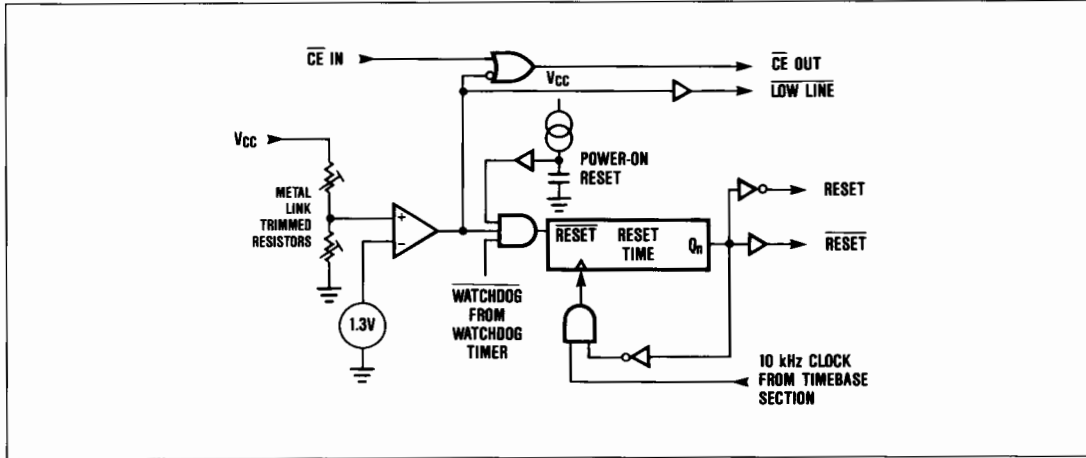

Figure 5. Reset Block Diagram
**RESET** is an active low output which goes low whenever  $V_{CC}$  falls below 4.5V (MAX690/691/694/695) or 4.25V (MAX692/693). It will remain low until  $V_{CC}$  rises above 4.75V (MAX690/691/694/695) or 4.5V (MAX692/693) for 50 milliseconds\*. See Figures 5 and 6.
The MAX691, MAX693 and MAX695 use two pins to control the Chip Enable or Write inputs of CMOS RAMs. When  $V_{CC}$  is +5V,  $\overline{CE}$  OUT is a buffered replica of  $\overline{CE}$  IN, with a 50ns propagation delay. If  $V_{CC}$  input falls below 4.65V (4.5V min, 4.75V max) an internal gate forces  $\overline{CE}$  OUT high, independent of  $\overline{CE}$  IN. The MAX693  $\overline{CE}$  OUT goes high whenever  $V_{CC}$  is below 4.4V (4.25V min, 4.5V max). The  $\overline{CE}$  output of both devices is also forced high when  $V_{CC}$  is less than  $V_{BATT}$ . (See Figure 5.)